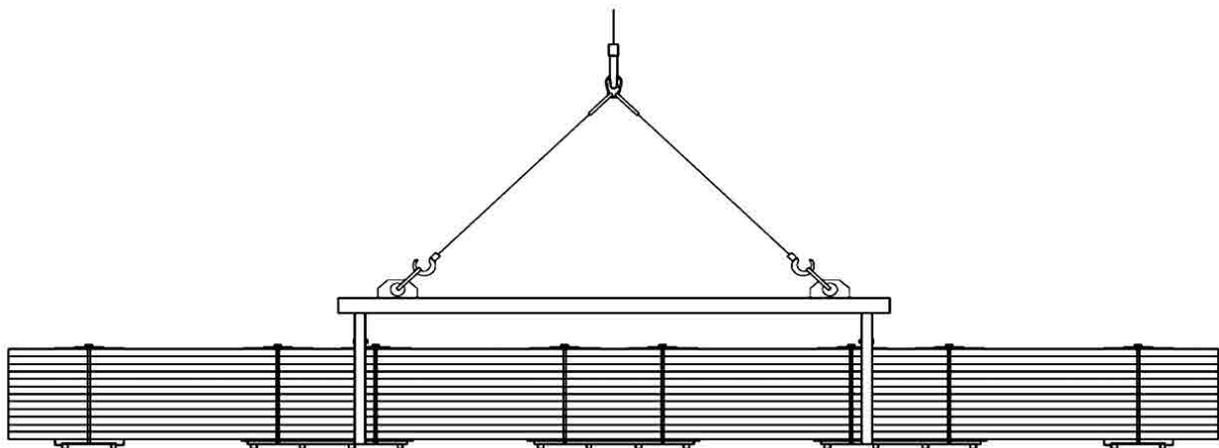

Fig. 3. Unloading of  $> 8.7$ m long panels.
- For 8.7-21 m long packages an additional 8 m long cross-beam should be used, as shown in fig. 3.